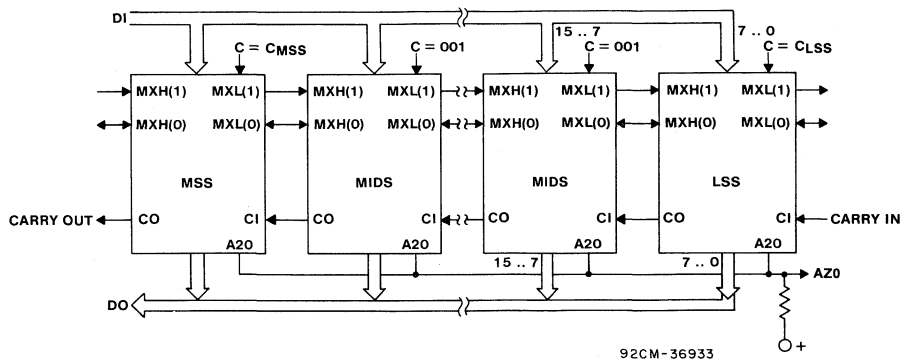

Fig. 21 - Concatenation of general processor units.
Fig. 21 illustrates concatenation. The carry-out (CO) of each GPU (except MSS, most significant slice) is connected to the carry-in (CI) of the next more significant GPU. The all-zero detection function is integrated by joining the AZO pins of all GPU's as open drain outputs. The shifters are concatenated by connecting the $MXH(0)$ and $MXH(1)$ pins